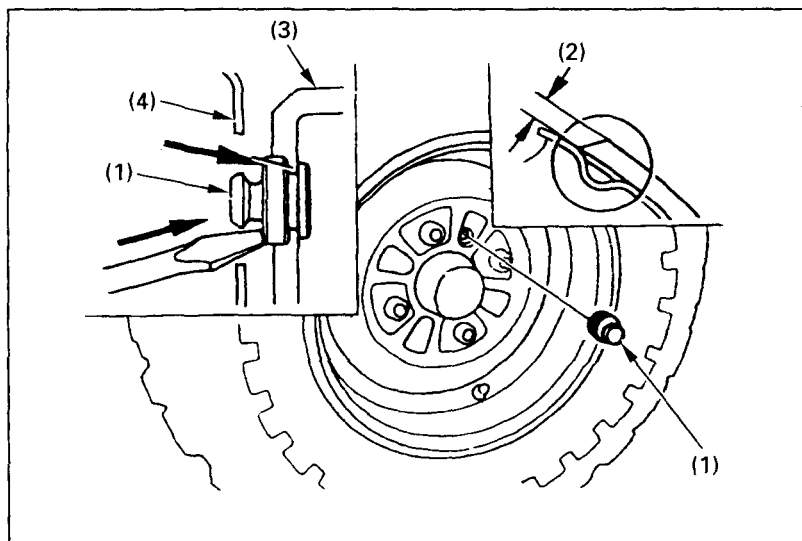
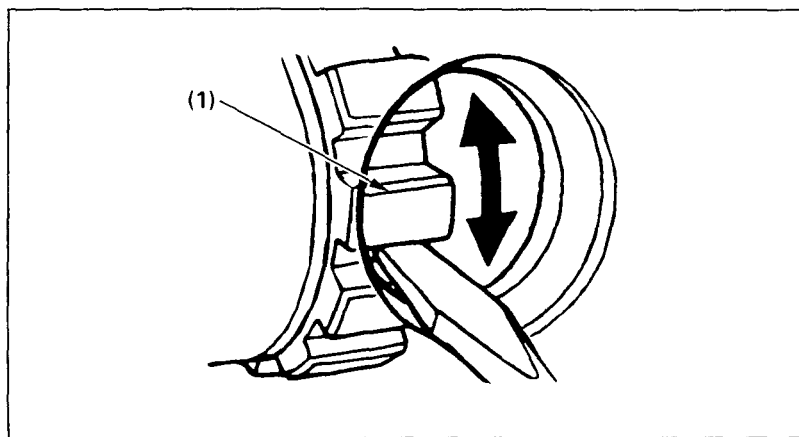

Fig. 4-21 (1) Inspection hole plug (2) Lining thickness (3) Front brake drum (4) Front wheel rim
Fig. 4-22
(1) Front brake lever
2. Remove the inspection hole plug (Fig.4-21) and measure the lining thickness (2) on both front wheels.
3. If the brake lever free play and the brake shoe lining thicknesses are within the recommended limits, reinstall the inspection hole plugs, seating them into the inspection holes as shown in Fig. 4-21.
3. Beginning with either the left or right front wheel, remove the inspection hole plug (Fig. 4-21) and line up the hole with one of the brake adjusters (Fig. 4-22).
4. Using a screwdriver, turn the brake shoe adjuster (1) in the direction of the arrow until the front brake locks.
(1) Brake adjuster
7. Reinstall the inspection hole plug, seating it into the inspection hole as shown in Fig. 4-21.